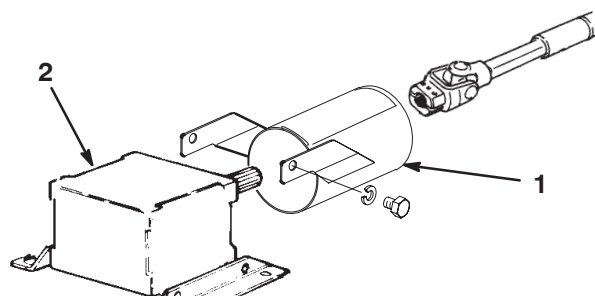

Figure 7
3. Remove the 2 capscrews and lock washers securing the PTO guard mounting brackets to the gear box (Fig. 7). Retain the fasteners for future installation.
4. Slide the PTO shaft guard onto the PTO shaft, positioning the guard as shown in Figure 7.